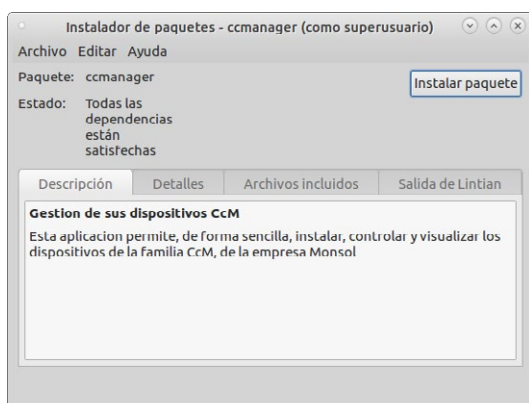

Figure 4 Linux – Installation process 1 of 3
- Click on “Install package” to start the installation (Figure 4).